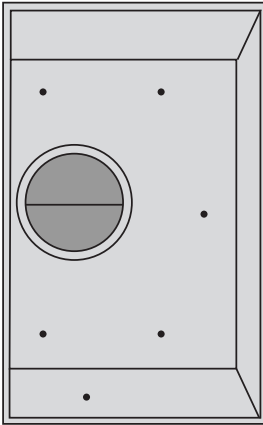

Figure 6
- For additional support, use pre-drilled holes and mounting screws to attach side and top of the range hood (see Figure 6 and 7).